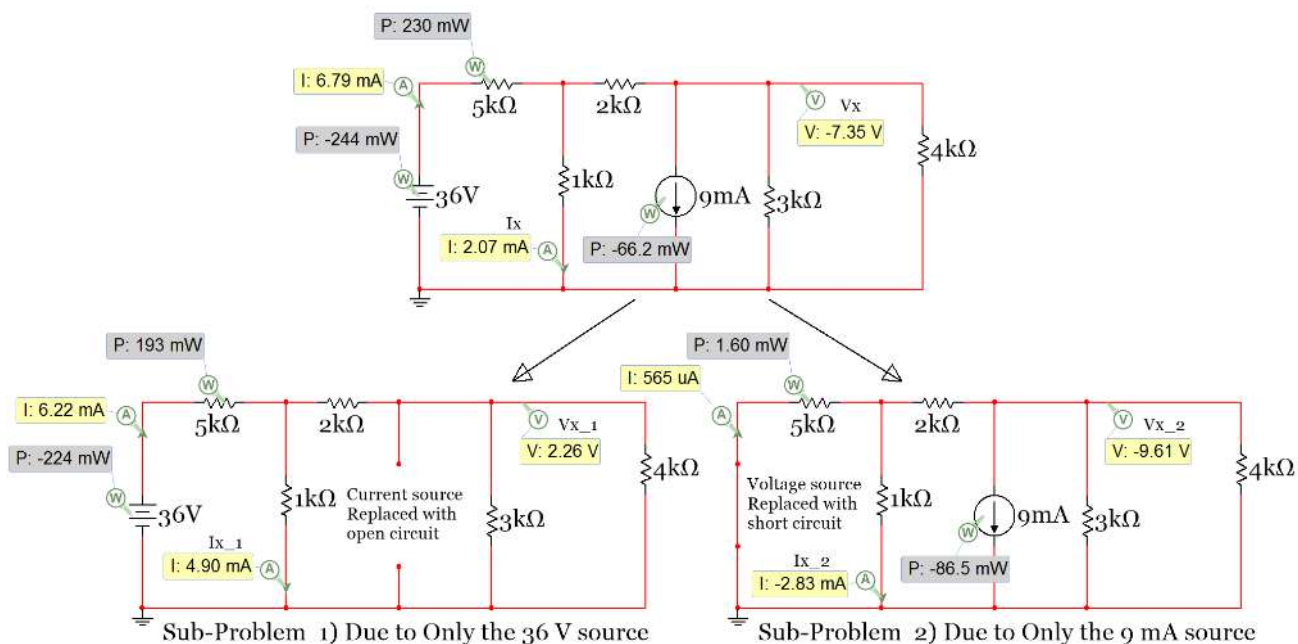

Figure 2.35: Circuit for Example 2.16
Since there are 2 independent sources this circuit requires 2 sub-problems when using the superposition solving technique. First, V_x and I_x will be solved Due to Only the 36 V source (bottom left circuit in Figure 2.35). Notice how the 9 mA source is “zeroed out” by replacing it with an open circuit.
- $I_x = I_{x_1} + I_{x_2} = 4.901 \text{ mA} - 2.827 \text{ mA} = \mathbf{2.074 \text{ mA}}$ (Matches top circuit in Fig 2.35)
- $V_x = V_{x_1} + V_{x_2} = 2.261 \text{ V} - 9.613 \text{ V} = \mathbf{-7.352 \text{ V}}$ (Matches top circuit in Fig 2.35)
One very important limitation of the superposition method is that power CANNOT be determined by adding up the power that was supplied or dissipated in a component due to each source. You can only find the voltage or current due to only one source and add them up. Power probes were included in the circuit in Figure 2.35 (see gray shaded probes) and the values are shown below: